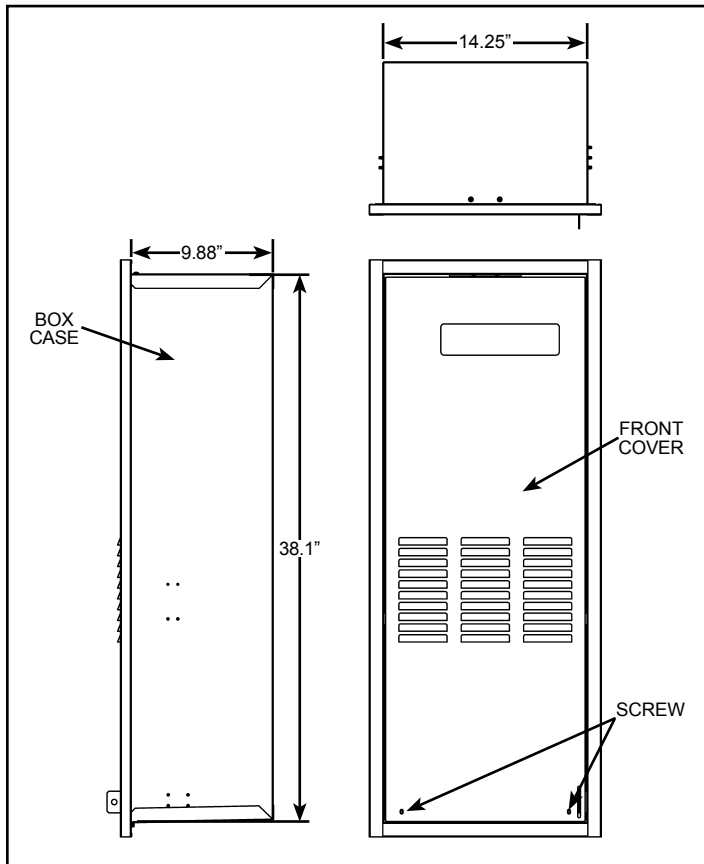

Figure 2.
1. Remove and retain the screws (Item #7) securing the front cover (Item #2) to the recess box (Item #1) (see Figure 2).
4. Prepare an opening in the wall with the following minimum dimensions (see Figure 2):